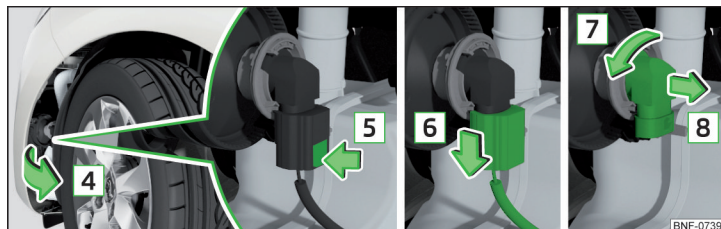

Fig. 146 Changing a bulb
- Open out the wheel house trim in the direction of arrow **4** » Fig. 146.